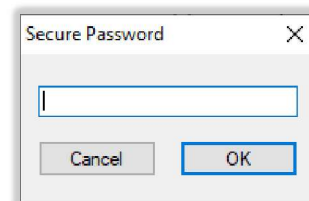

Figure 36
- d. Enter the *Secure Settings* password. *Figure 36*